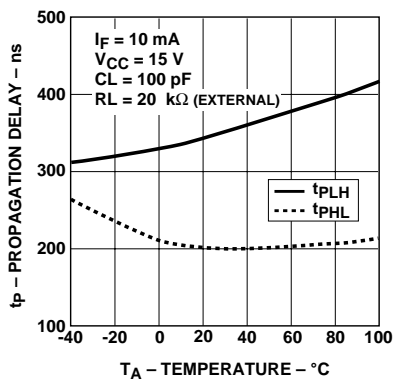

Figure 12. Propagation Delay with External 20 kΩ RL vs. Temperature.
- Due to tolerance of the internal resistor, and since propagation delay is dependent on the load resistor value, performance can be improved by using an external  $20 \text{ k}\Omega$  1% load resistor. For more information on how propagation delay varies with load resistance, see Figure 12.